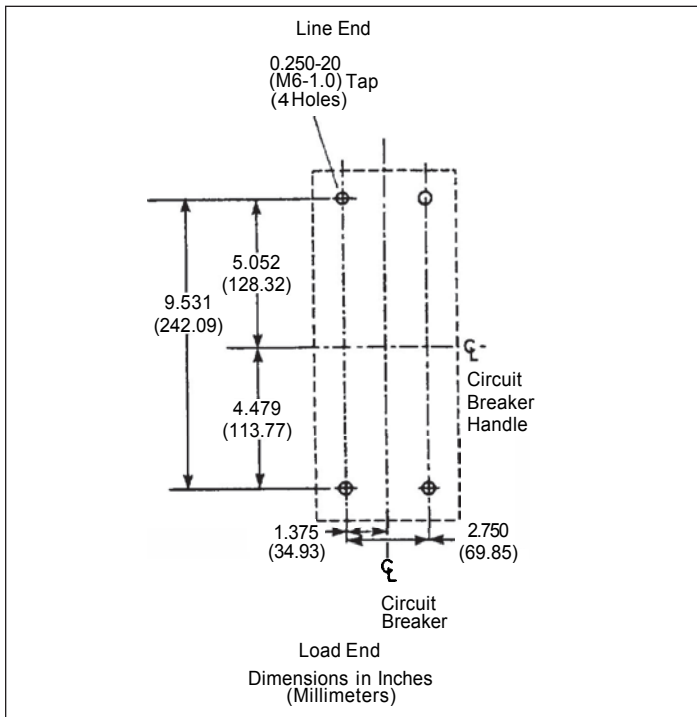
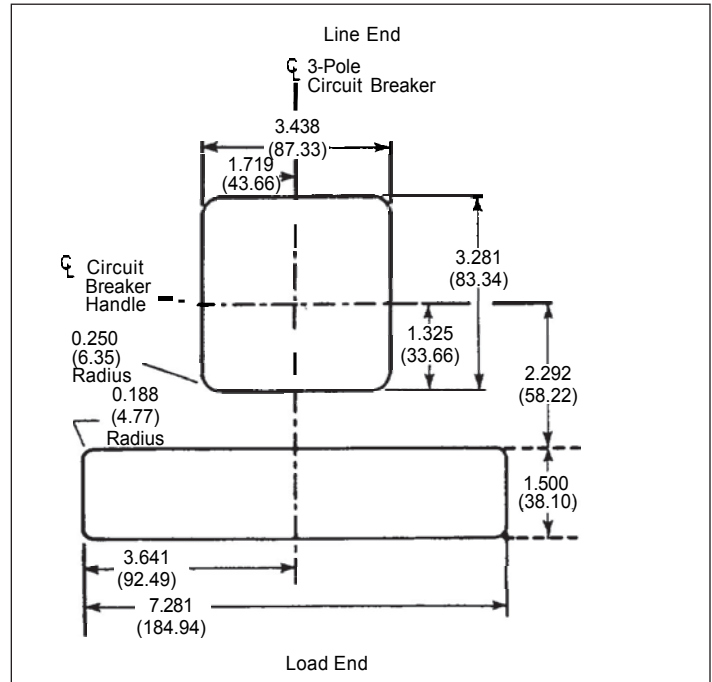

Figure 7. 3-Pole Circuit Breaker Mounting Bolt Drilling Plans.
Figure 8. Circuit Breaker Escutcheon Cutout Dimensions for 3-Pole Circuit Breakers.
- a. For individual surface mounting, drill the mounting panel using the drilling plan shown in **Figure 7**. For panelboard mounting, only load end support mounting holes are required. For Deadfront cover applications, cut out cover to correct escutcheon dimensions, see **Figure 8**.